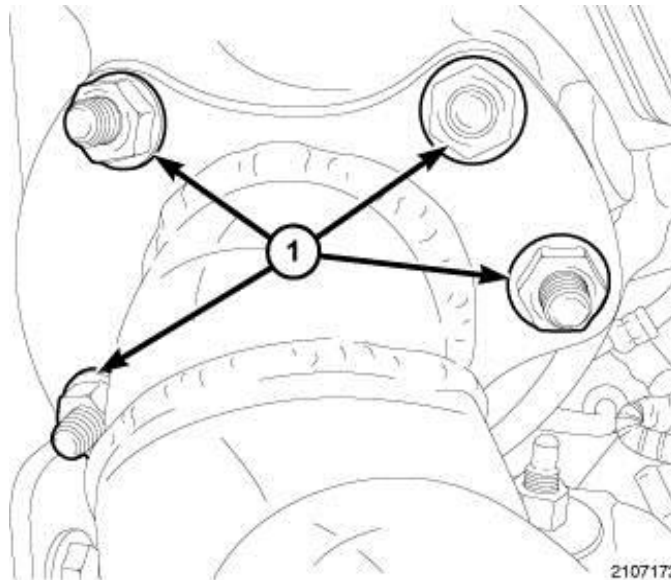

Fig. 3
10. Remove the 4 nuts holding the catalytic converter assembly to the turbo (Fig. 3).